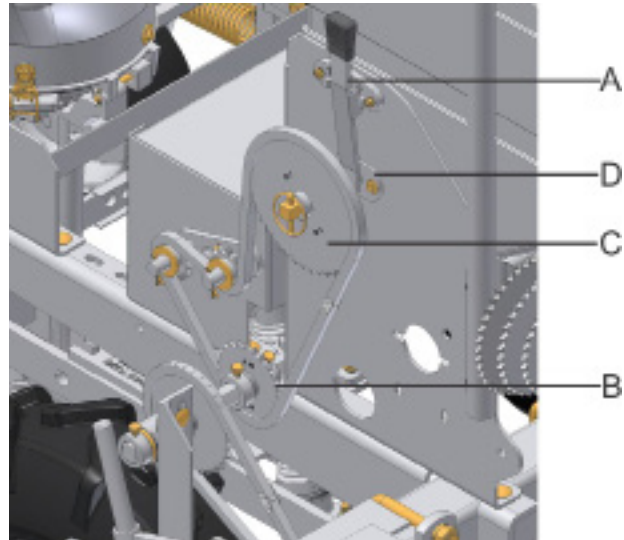
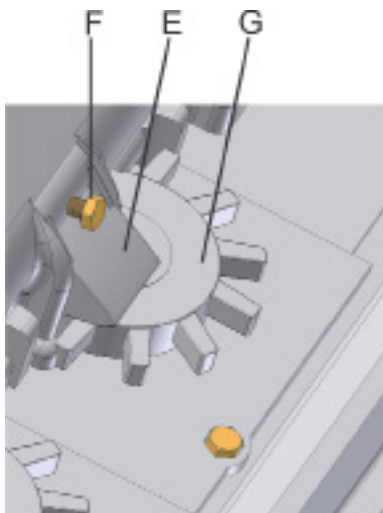

fig. 19
fig. 20
The adjusting levers (A) (fig. 19), exchange of drive (B) and driven sprockets (C) perform the setting of amount the fertilizer in kg/ha and the fertilizer is carry out the rotor (G) (fig. 20).
- 1- First, check if the regulators (E) (fig. 20) are free, if not, loosening the fixing bolts (F).
- 2- Put the adjusting lever (A) (fig. 19) in the neutral position from scale (D).
- 3- With one hand press the regulator and with the other secure it by means of the screw (F), so that all regulators have the same height in relation to the rotor.
- 5- Put the lever in zero position from scale (D).